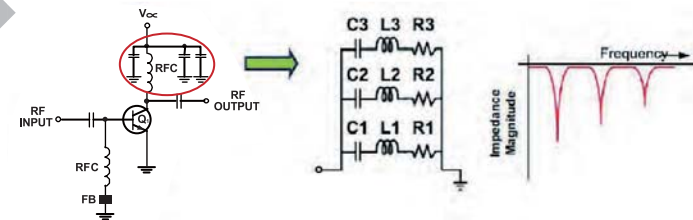

Fig.16 Capacitor array used as bypass to ground
It is often desired to bypass some point to ground over a large frequency range, that is, provide a path having very low impedance to RF signals while still blocking DC. In the past, this was typically accomplished by an array of capacitors having different values, as shown in Fig. 16.
Here, C1 might be perhaps 100 pF, C2 might be 1 nF, and C3 might be 10 nF. There were two problems with this arrangement: (1) Above the series resonance of C3 [= (271)-(L3C3).0-5], its impedance was inductive and would create a parallel resonance with C1 and C2; and (2), the individual capacitors had their own built-in parallel resonances. Either problem led to an impedance magnitude vs. frequency characteristic similar to that shown on the right of Fig. 16. To reduce the magnitude of the resonances, additional loss would need to be introduced in the form of low-value resistors connecting the capacitors or ferrite beads surrounding the connecting leads. In contrast, broadband capacitors offer a simple, cost effective way to replace these arrays with a single capacitor.